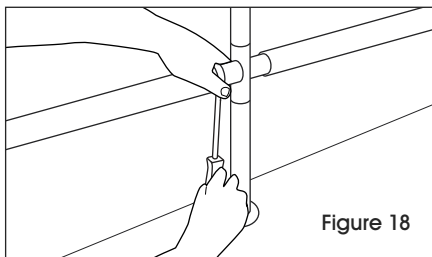
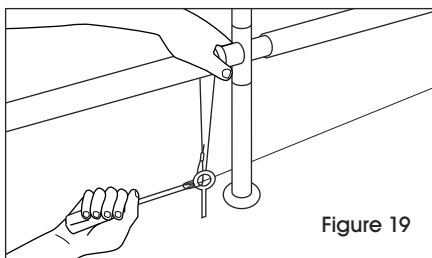

Figure 18
Figure 19
2. Unloop the cable from the anchor eye and slide the clamp onto cable. Run cable around the pipe, (See Figure 18) and then back through the clamp. (See Figure 19) Pull the cable as tight as possible through the clamp. Hold the cable and tighten clamp with a 5/8" wrench or some type of adjustable wrench.